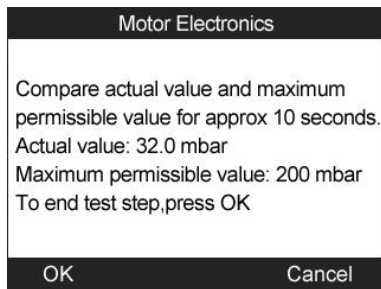

Figure 13.44
- e) Check the exhaust backpressure with engine running at cut-off speed. The tool will read off the actual backpressure value and compare with the upper limit. (Figure 13.44). Select **OK** to end the test or **Cancel** to return to previous menu.